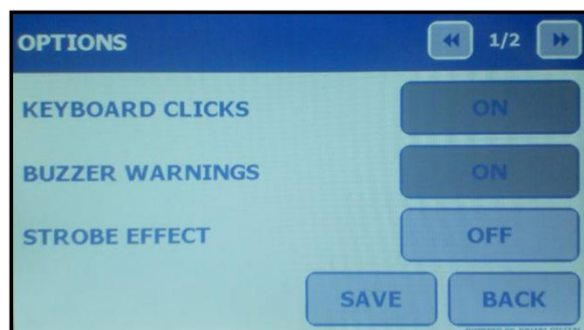

Figure V-26a: Options Screen (Page 1)
2. Scroll through the pages using the [ / >] buttons located at the top right corner of the ‘Touch Screen’ (Figure V-26a and V-26b).